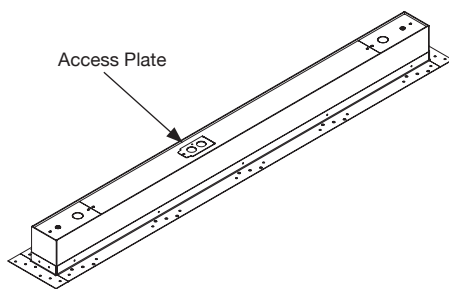

Fig.1
1. On the top of fixture (Fig. 1), prepare the wiring of the fixture through the access plate shown below.